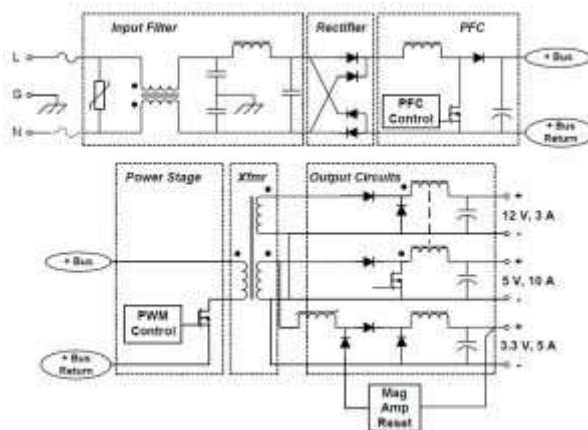

Figure 1: Functional Block Diagram of a Forward Converter AC/DC Power Supply
Converters steer an alternating current, as its voltage also alternates, into reactive impedance elements, such as inductors (L) and capacitors (C), where it is stored and integrated. This process separates the power associated with the positive and negative potentials. Filters are used to smooth out the energy stored, resulting in creation of a DC source for other circuits. This circuit can take many forms but always comprises of the same essential elements, and may have one or more stages of conversion. The converter depicted in figure 1 is called a ‘forward converter’, which is a higher efficiency than a slightly simpler architecture; a ‘flyback converter’. Although not discuss in detail, a flyback converter differs from a forward converter in that its operation depends upon energy stored in the airgap of the transformer in the circuit. Apart from this difference, they can utilize the same essential blocks.
The input filtering block will also typically include a voltage dependent resistor, or varistor to prevent high voltage spikes on the electrical power grid from damaging the power supply. This is the rectangular box with the diagonal line through it on the input in Figure 1. The most common type of varistor is a metal-oxide varistor (MOV). Any voltage over the devices ‘clamping voltage’ causes the MOV to become conductive, shunting the high voltage spike and suppressing the surge.
The simplest AC/DC converters comprise of a transformer following the input filtering, which then passes onto a rectifier to produce DC. In this case, rectification occurs after the transformer because transformers do not pass DC. However, many AC/DC converters use more sophisticated, multi-stage conversion topologies as depicted in figure 1 due to advantages of smaller transformer requirements and lower noise referred back to the mains power supply.
The converter depicted in figure 1 is a single stage PFC converter. The capacitor in this section is used to store the unbalanced energy between the pulsating input power and relatively constant output power of the stage. See the “Reactive Energy Storage” section for more details on this. Two stage PFC converters are commonly used as they don’t have to handle as wide a voltage range across the storage capacitor you get in universal power supplies, which has a detrimental effect on conversion efficiency. They can also offer better trade-offs in the capacitor size, and this can help reduce cost.
Figure 1 has a block called ‘Mag Amp Reset’ associated with demagnetizing the transformer due to a magnetization current inherent in the architecture. Without this, the remanence of the core material would saturate it in a few cycles of the power stage PWM. Although too complex to cover in this tutorial, this additional circuit can be very confusing when reviewing converter circuit diagrams, and it is useful to know why it is required. There are a number of techniques to perform demagnetization, the simplest being when the power stage switch is off a demagnetizing current is fed back diode through a separate auxiliary winding. This circuit restricts the maximum PWM duty cycle to 50%, but more complex methods can be used to enable higher duty cycles.